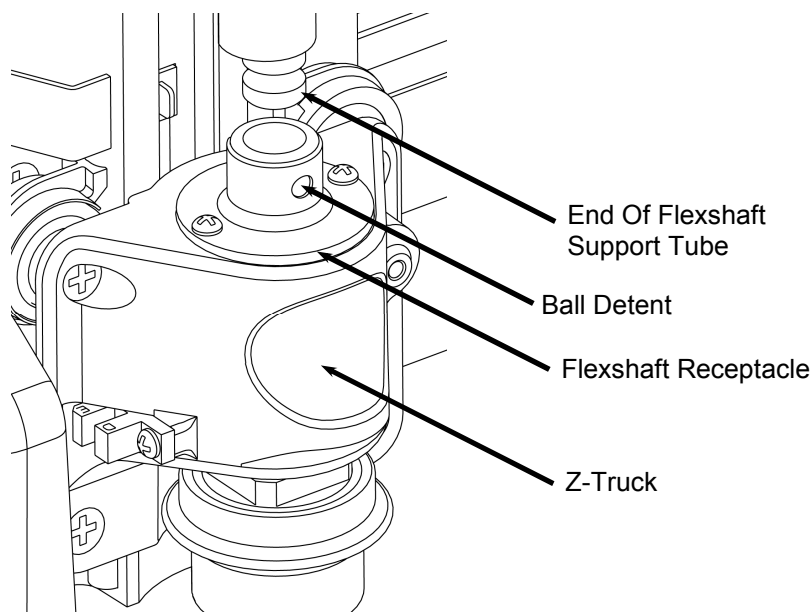

FIGURE 3: VIEW OF THE FLEXSHAFT CONNECTION TO THE Z-TRUCK
3. **Detach the flexshaft from the top of the Z-truck:** The flexshaft assembly is retained by a ball detent located in the flexshaft receptacle (See Figure 3). Firmly grasp the flexshaft support tube while reaching under the clear front cover with your other hand to grab the Z-truck. Pull up firmly on the flexshaft support tube and twist slightly while bracing the Z-truck. **DO NOT PULL ON THE SHEATH.** The flexshaft will pop out of the detent. Wrap the end of the flexshaft in tape so that the core will not fall out and lay the detached flexshaft end to the side.